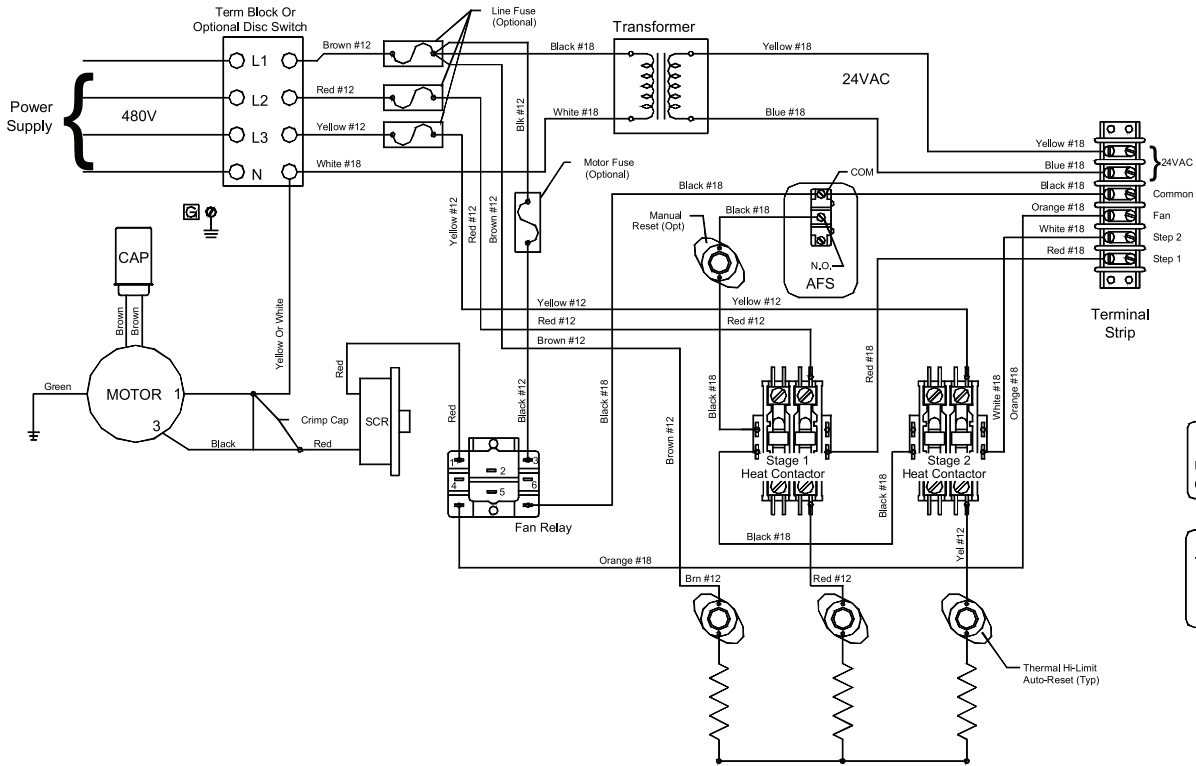

Figure 7
- Figure 7 Typical electronic fan powered terminal with field mounted controls.